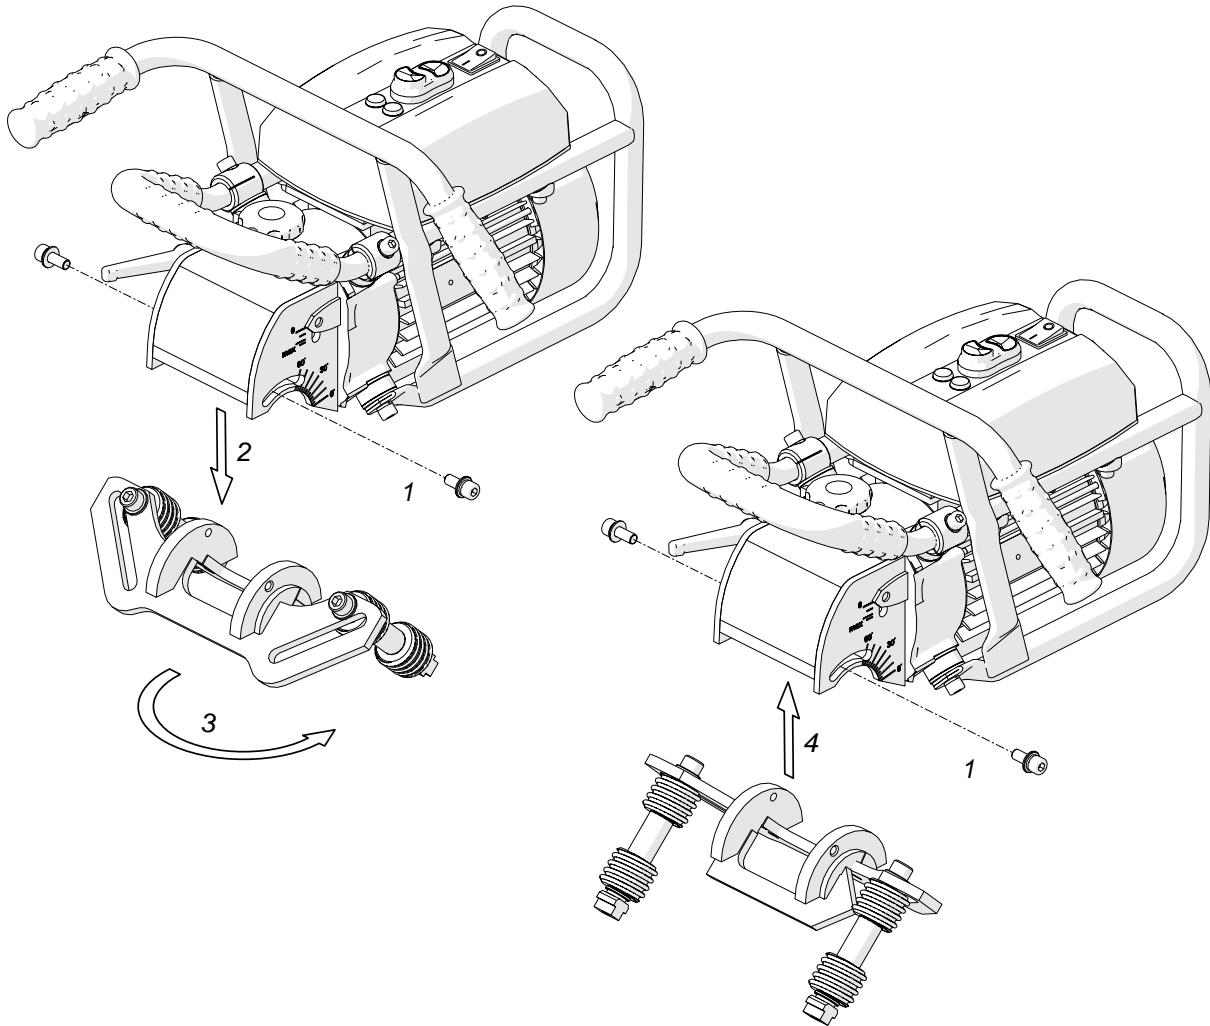
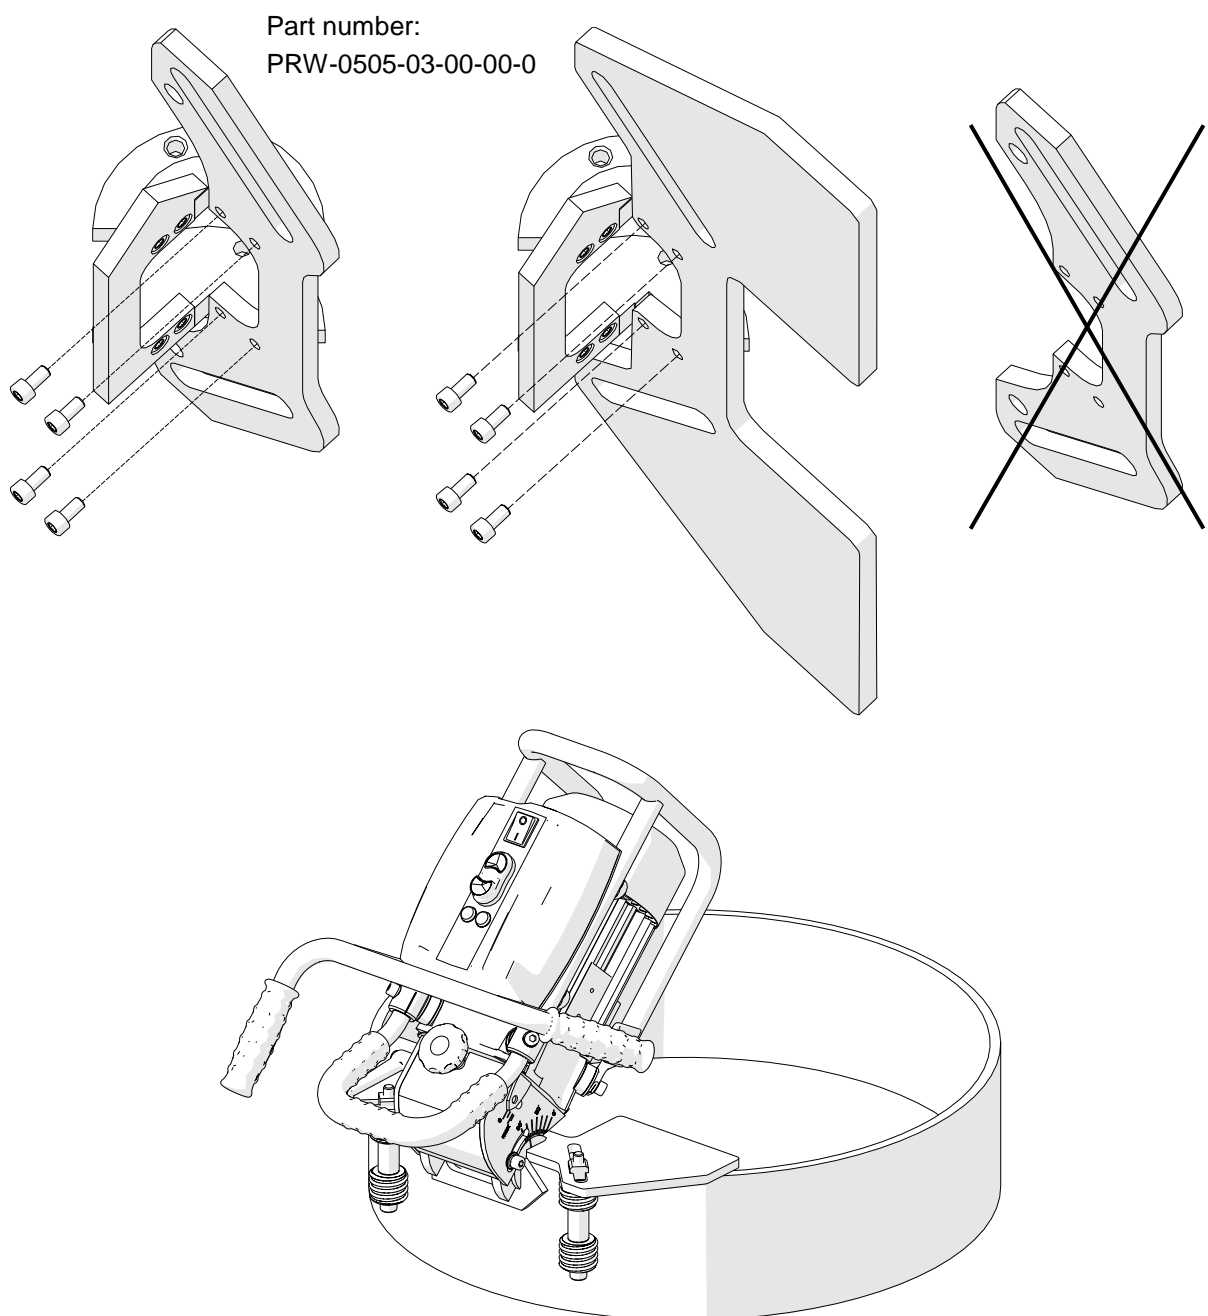

Fig. 6. Rotating and mounting the guide set
Fig. 10. Machine prepared for work on pipes with diameters 300–600 mm
To bevel pipes with diameters of 150–300 mm (6–12"), use the standard guide set after assembling it in a different way. To do this, use the 6 mm hex wrench to unscrew two side screws (1, Fig. 6), then remove the guide set (2), rotate it by 180° around the vertical axis (3), mount again (4), and secure with the screws (1).
To bevel pipes with diameters of 300–600 mm (10–24”), assemble the guide set using an optional guide. To do this, remove the guide set (1, 2, Fig. 6), use the 4 mm hex wrench to unscrew the standard guide, and assemble the guide for 300–600 mm pipes (Fig. 10), tightening with the screws. Mount the rollers and adjust the required bevel angle and width as described before.